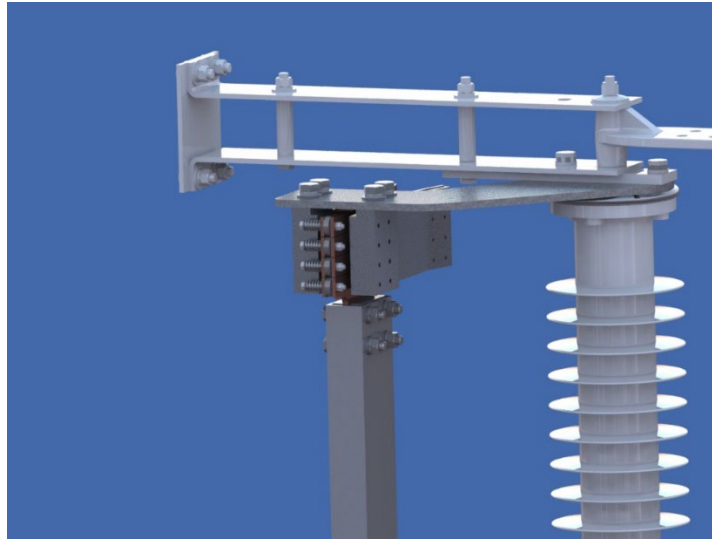

Figure 5: Jaw Contact
- 2.1. Carefully, lift the blade manually by hand confirming the blade tip is centered in the jaw (**Figure 5**) and the leading tapered edge is vertically in line with the jaw opening. If correct tighten the blade clamps and any loose hardware on the jaw mounting, proceed to the next phase until all are complete.
- 2.2. If adjustment is necessary, have a helper make adjustments to the jaw mounting bracket, base mounting bracket, and/or blade clamp, correcting the issue. Refer to **Figure 5**.